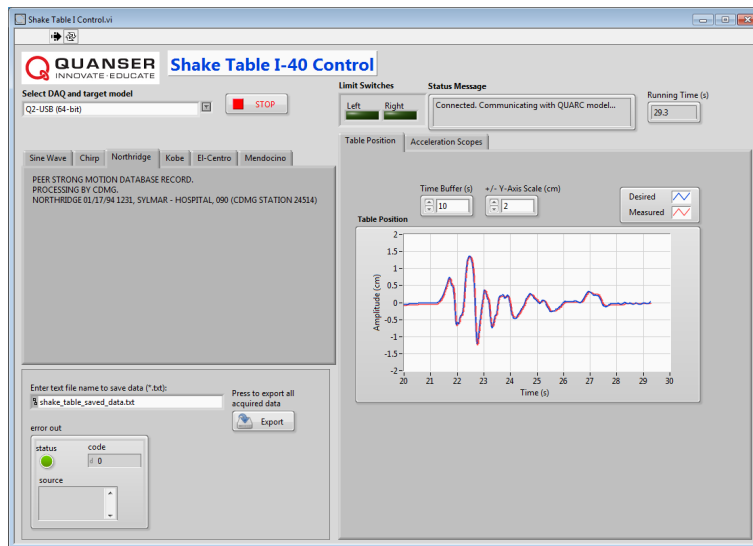

Figure 2.6: Running the Northridge earthquake
9. **Earthquake:** Four sample earthquakes are preloaded: Northridge, Kobe, El-Centro, and Mendocino. Thus when the *Northridge* tab is selected, the Northridge earthquake is replayed on the shake table, e.g. the Northridge position response is shown in Figure 2.6. The position of the tremor is scaled down but the resulting accelerations are the same as recorded in the actual earthquake. The earthquake automatically restarts when it has completed. Select the other tabs to replay that particular earthquake on the shake table.